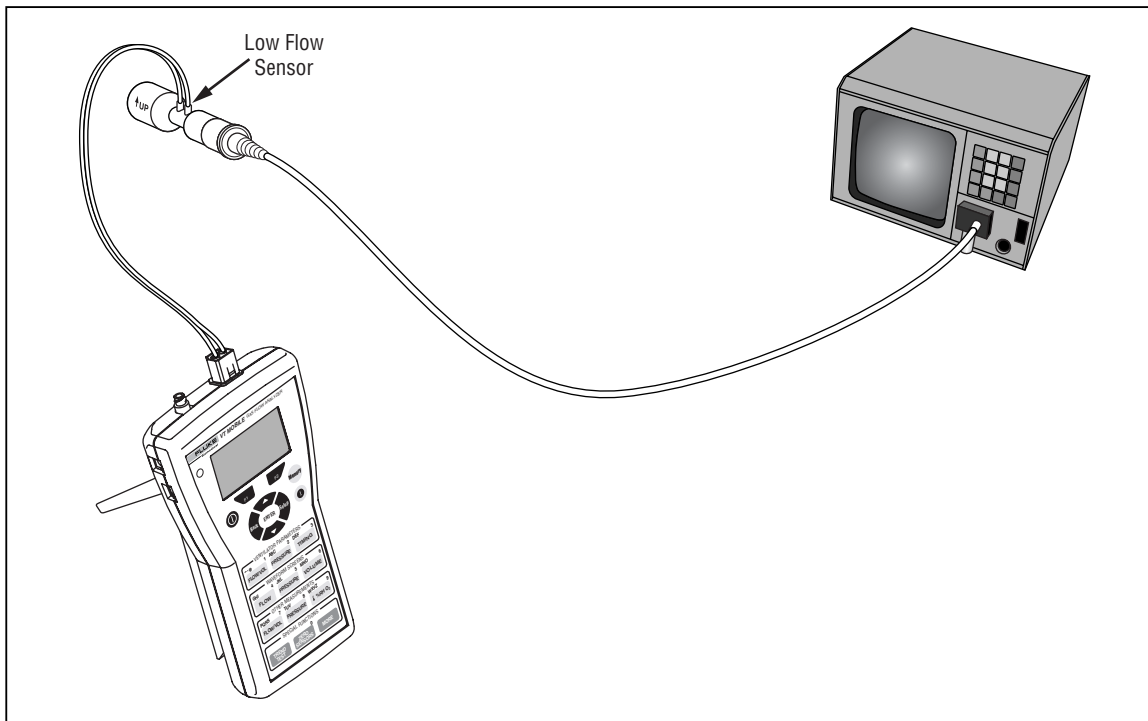

Figure 6-1. Measuring Low Flow
Measure low flow in the range: +/- 25 lpm. Never exceed an absolute maximum of 35 lpm. Refer to Figure 6-1 while following these steps:
1. Connect the Analyzer for low-flow or high-flow measurement as shown in Figure 6-1 or 6-3, respectively.